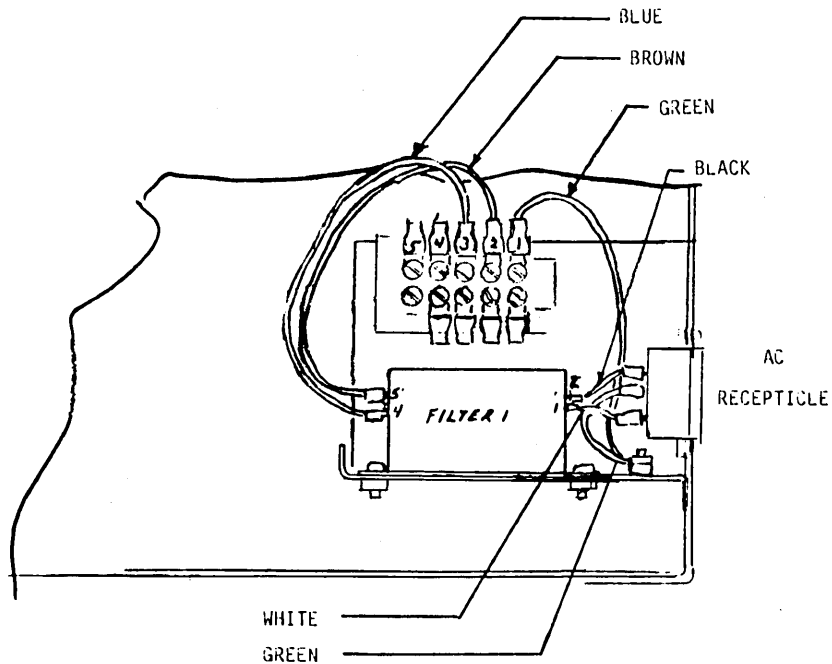

Figure 4-18. Filter And Terminal Locations
4. Disconnect four leads to filter 1, see Figure 4-18.